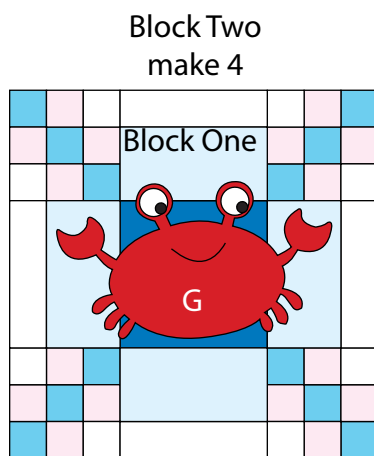
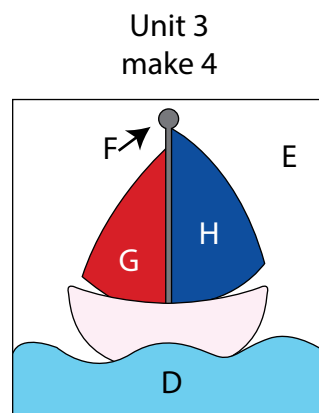

Fig. 8
Fig. 9
10. Refer to Figure 8 to arrange and press the (1) Fabric G crab, (2) Fabric E eyes and (2) Fabric J inner eyes onto the center of (1) Block One square.
11. Finish the raw edges of each shape with a decorative stitch such as a buttonhole or satin stitch to make (1) Block Two square.
12. Repeat Steps 10-11 to make (4) Block Two squares total.
13. Repeat Steps 10-11 and refer to Figure 9 for fabric identification and location to make (4) Unit 3 blocks total.